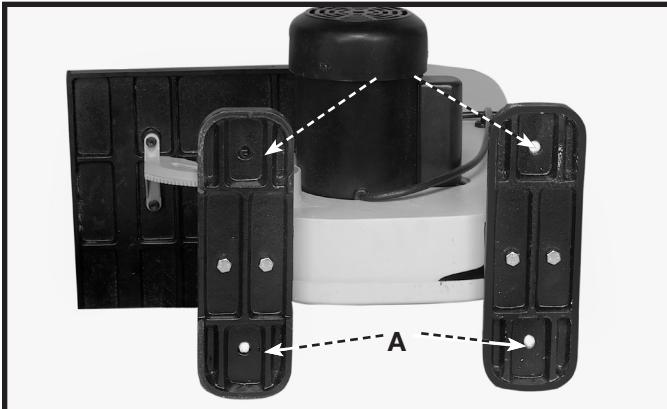

Fig. 5
1. Fig. 5 illustrates the four through holes (A) which will be used to secure the band saw to the stand.
2. Place the band saw on top of the stand and line up the holes (A) Fig. 5 with the holes (D) Fig. 6 on the top brackets of the stand.